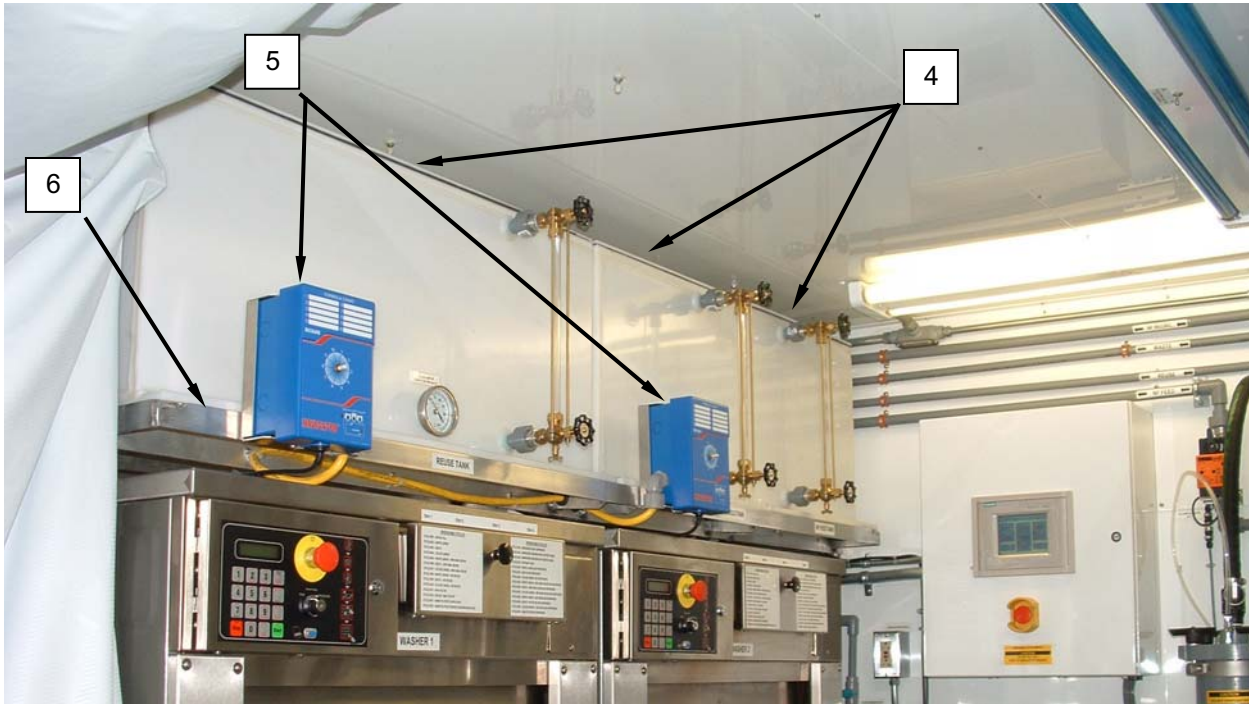

Figure 5. Replace the Water Reuse Holding Tanks.
2. Drain tank (**Figure 5, Item 4**) completely.
3. Tag and remove all hose connections, electrical connections, and fittings from the damaged tank (**Figure 5, Item 4**). Ensure that the level sensor and sight glass assembly is removed.
4. Remove the soap dispenser control modules (**Figure 5, Item 5**) from their mounts and place out of the way.
5. Remove mounting hardware retaining the tank (**Figure 5, Item 4**) to the tank rack (**Figure 5, Item 6**).
6. Remove tank (**Figure 5, Item 4**).
7. Remove screws, washers, and nuts retaining top of tank (**Figure 5, Item 4**), and remove top.
9. Install the assembled tank (**Figure 5, Item 4**) in place and retain with original hardware.
10. Remount the soap dispenser control modules (**Figure 5, Item 5**).
11. Install hose connections, electrical connections, and fittings, including the level sensor and sight glass assembly, onto the tank (**Figure 5, Item 4**) as tagged.